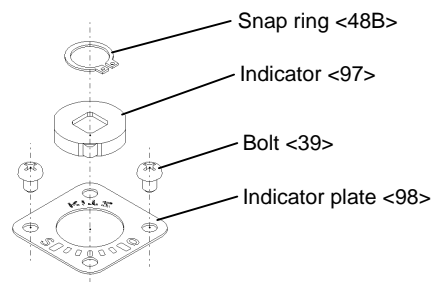

Fig.6
- (4) Remove a snap ring (with snap ring pliers), a position indicator, headed screws and an indicator plate (Fig.6).